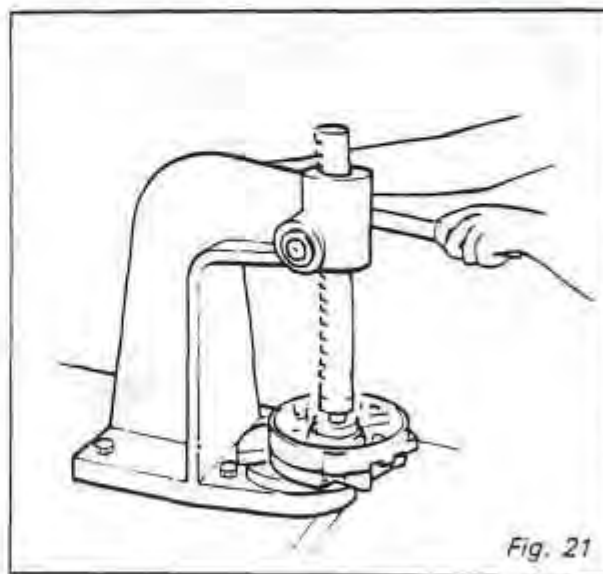

Fig. 21
8. If the bearing is in the slip ring end bracket (6), fill the bearing aperture with thick grease and drive a well fitting drift through the inner race of the bearing (17) which will be forced out by the hydraulic lock created by the grease. *Fig. 21*